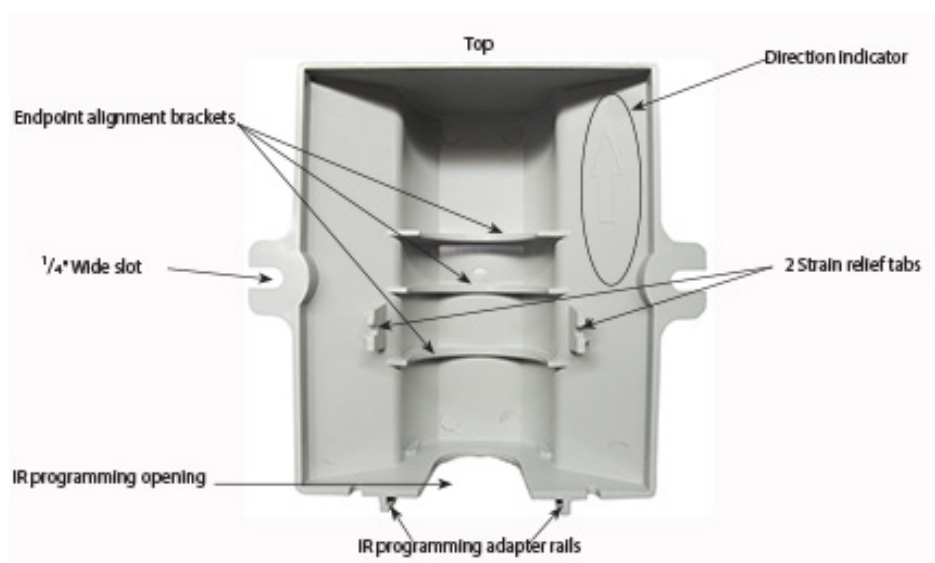

Figure 17: Enclosure orientation
1. Flip over the enclosure and look inside to verify the proper orientation. The bottom is identified by the IR head holder rails and an opening that allows access to the endpoint IR communication port without having to disassemble the unit (Figure 17).